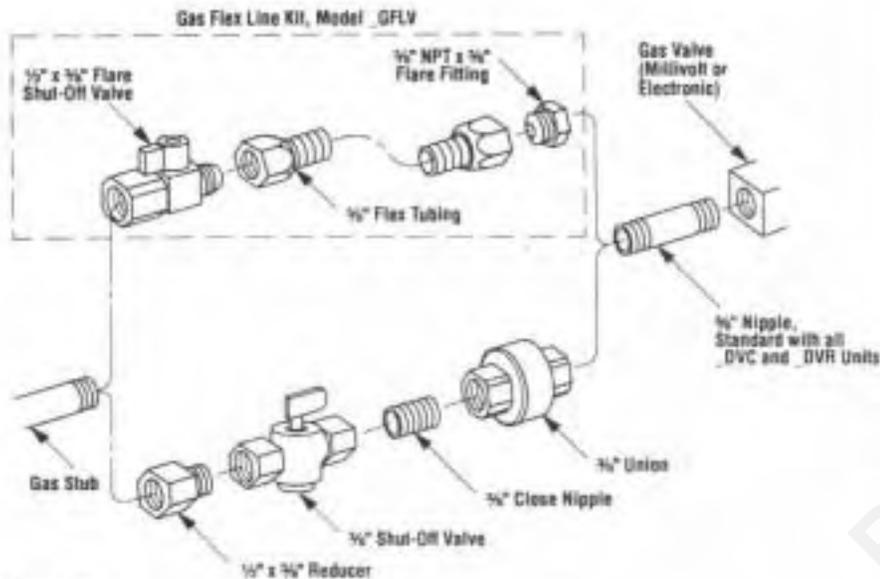

Figure 37
**Step 9. Connecting Gas Line –** Make gas line connections. All codes require a shut-off valve mounted in the supply line. Figure 37 illustrates two methods for connecting the gas supply. The flex-line method is acceptable in the U.S., however, Canadian requirements vary depending on locality. Installation must be in compliance with local codes.